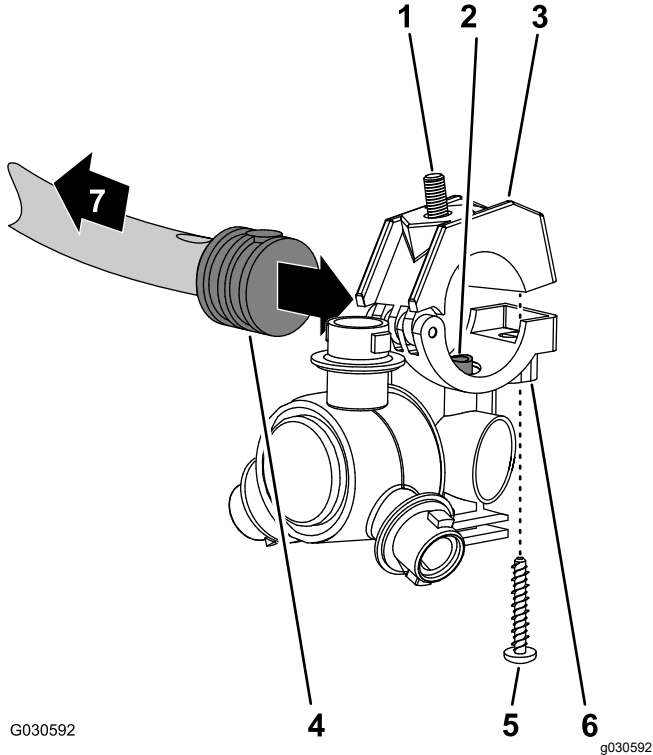
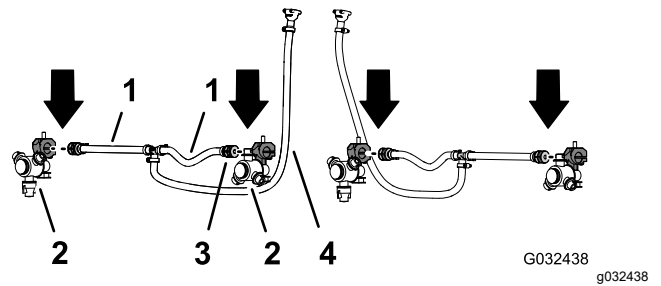

Figure 80
Figure 81
- Working with the sprayer nozzles that you removed in 12 Removing the Sprayer-Nozzle Hoses for the 3-Section System (page 32), remove the stainless steel screws that secure the upper clamp halves to the saddles (Figure 80).
- Locate the hole in the side of single barbed-hose shank at the end of the hose 25 cm (10 inches) of the hose assembly (sprayer valve 5 or 6) for the center-boom section (Figure 80 and Figure 81).
- Align the transfer tube in the saddle of a sprayer nozzle (Figure 80) with the hole in the side of the single barbed-hose shank (1/2 inch).
- Close the upper clamp half around the barbed-hose shank and sprayer-nozzle body (Figure 80) with the stainless steel screw (#12 x 1-1/4 inches); torque the stainless steel screw to 226 to 282 N·cm (20 to 25 in-lb).
- Repeat steps 2 through 4 to the single barbed-hose shanks of the other hose assemblies (sprayer valve 5 or 6) for the center-boom section (Figure 80 and Figure 81).